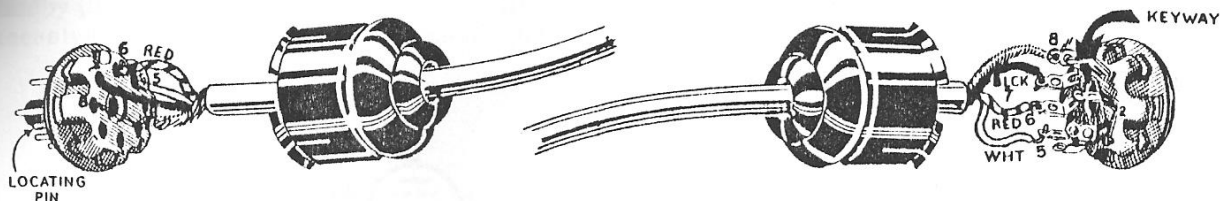

Figure 19
- () Locate the length of 3 conductor shielded cable. Referring to Figure 19, strip the outer jacket for a distance of 1" from each end of the cable. Then unbraid and twist the shield into a pigtail. On one end, strip and tin each wire for a distance of 3/8". Slide an octal socket cap over this end and connect the white lead to pin 5, the red to pin 6, the black to pin 7, and the shield to pin 8 of a female octal socket. Now snap the cover into place. At the other end, strip and tin each lead for a distance of 1/2". Slide an octal plug cover over the cable. Connect the white lead to pin 5, the red to pin 6, and the black to pin 7 of a male octal plug. Using a short length of #20 bare wire, connect the shield to pin 8. Trim off any excess shield. Now snap the cover into place.